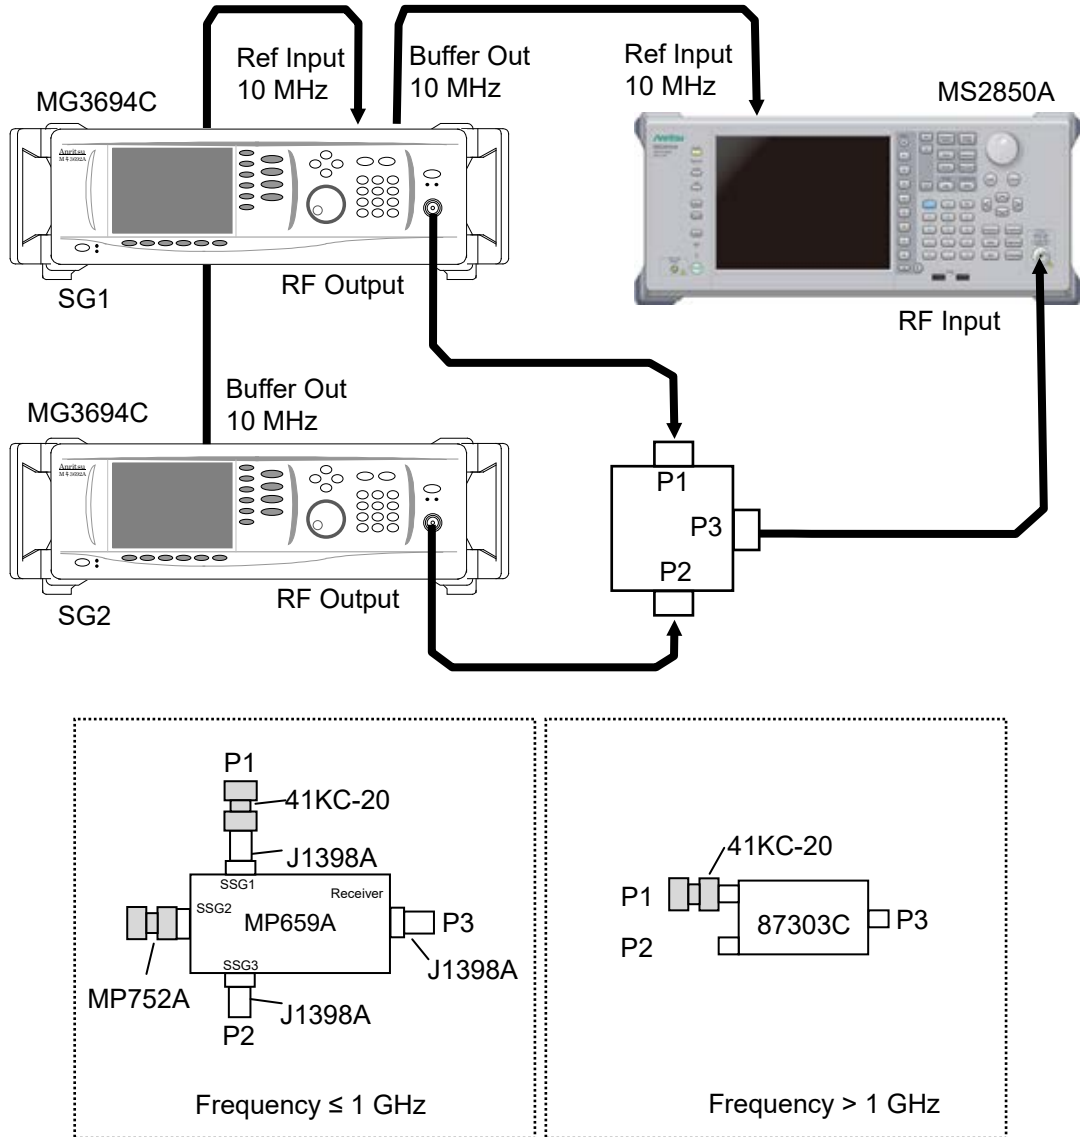

Figure 6.2.10-1 1 dB gain compression point
4. Connect the equipment in reference to Figure 6.2.10-1. Dependent on the Frequency, the measurement system will be different.